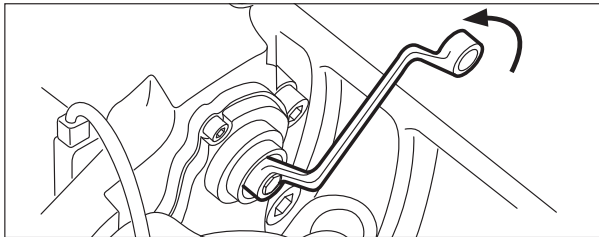

FIGURE 37 - BACKING OFF THE ADJUSTER FOR PAD REMOVAL
- 5.2.8 Use a 10 mm., six-point box wrench (See Figure 37) to turn the adjuster counterclockwise until sufficient space exists to remove the brake pads. A clicking noise occurs each time the adjuster turns.
- 5.2.19 Using the same tool, turn the Shear Adapter (61) **counter-clockwise** and listen for the sound of 3 clicks as the mechanism backs-off (increases) the running clearance. (See Figure 37).